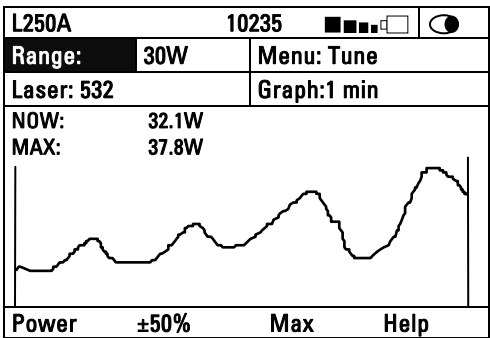

Figure 4.1
4.4.2.3 Tune See Figure 4.1
You can now use the tune screen to adjust and maximize your laser power. (See Figure 4.1). Note that you can not only see the trend, but also see if you have already reached a higher value before the numbers on the left side show you the present power reading as well as the highest one reached till now. Press “max” to reset the maximum reading to the present time. Now measure the power of the laser and adjust the laser until you determine that the power has reached a maximum.